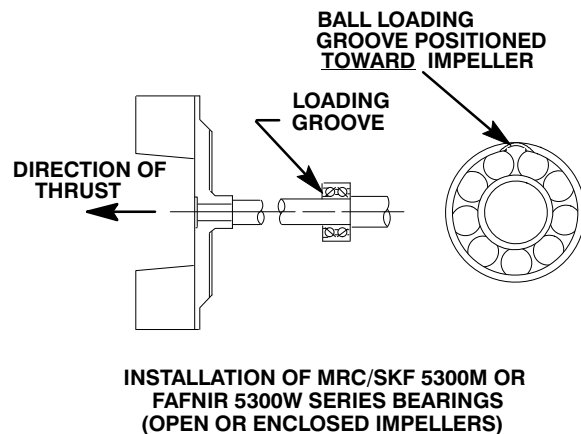

Figure 9. Inboard Bearing Positioning
Position the inboard bearing (39) on the shaft as indicated in Figure 9.